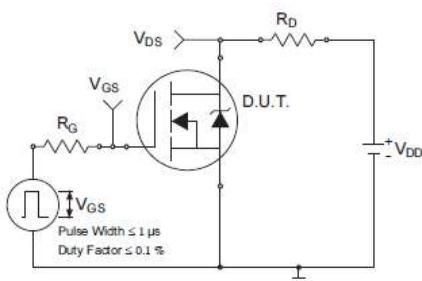

Fig 23a. Switching Time Test Circuit
3. Equation below based on circuit and waveforms shown in Figures 23a, 23b.